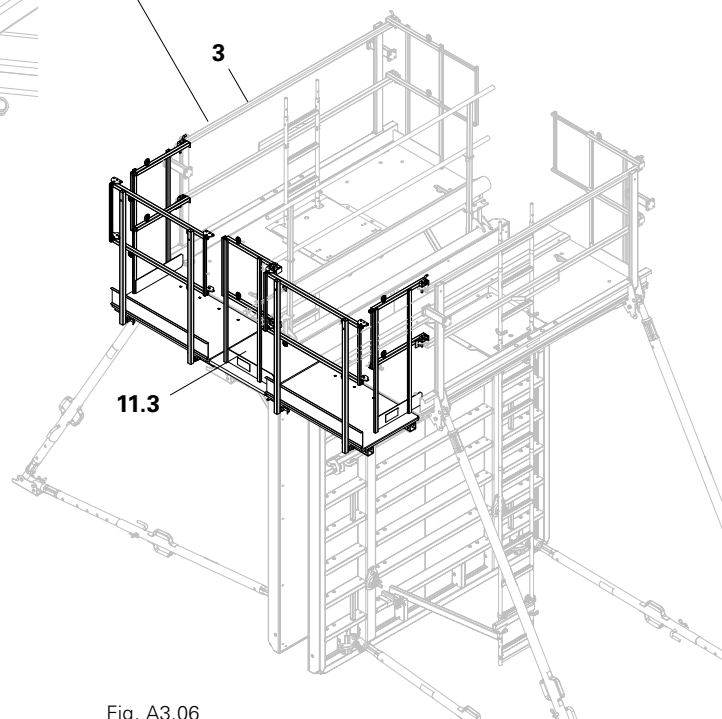

Fig. A3.06
5. Position covering (11.3) and secure with nails. (Fig. A3.06)